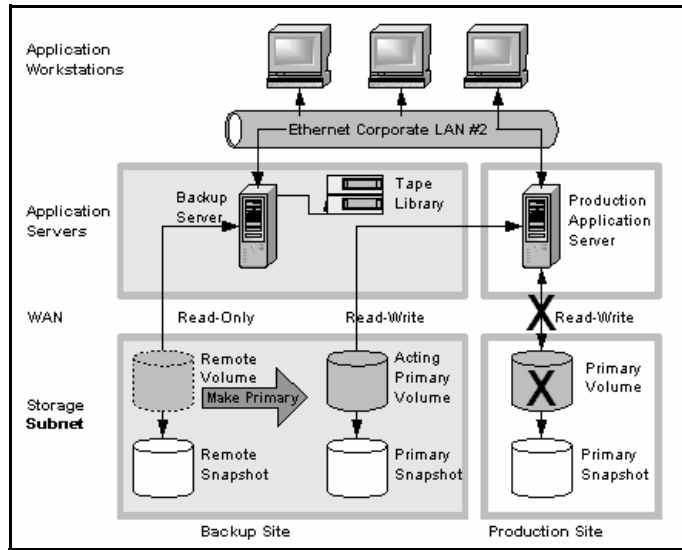
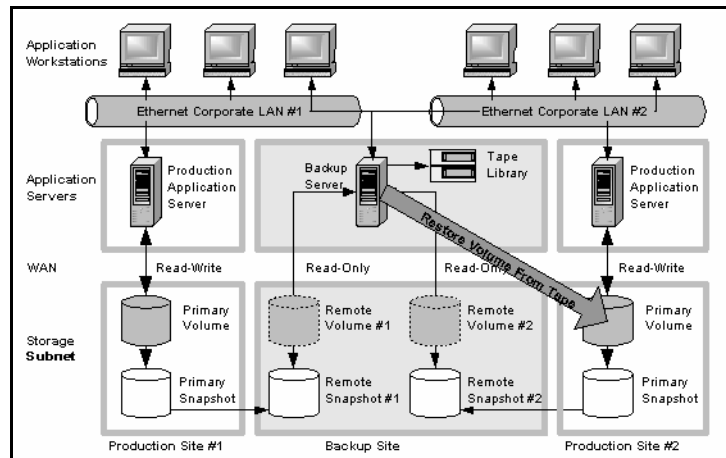

Figure 244. Restoring from a Remote Volume
Figure 245. Restoring from Tape Backup
- Use the remote snapshots to resume operations as shown in Figure 244. If you created tape backups, you can recover data from tape backups, as shown in Figure 245.
In Figure 244, note the server labelled Primary Snapshot in the gray area on the left. It originated as a read only back up, but is brought into use as a primary.